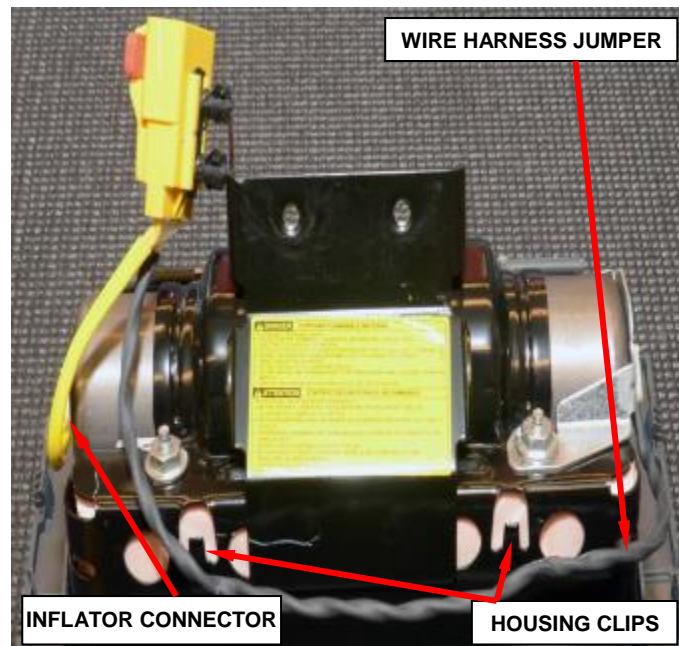

Figure 15 – Wire Harness Jumper
- b. Disengage the wire harness jumper from the housing clips in two places (Figure 15).
- c. Disconnect the single yellow wire inflator connector from the end of the inflator using pliers (Figure 15).